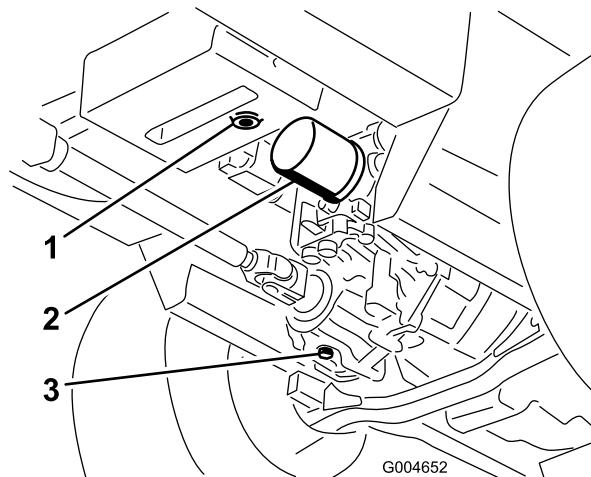

Figure 71
4. Clean the area around the hydraulic oil filter and remove it (Figure 71).
3. Place a large pan under the hydraulic reservoir and transmission case and remove the plugs, draining all of the hydraulic fluid (Figure 71).